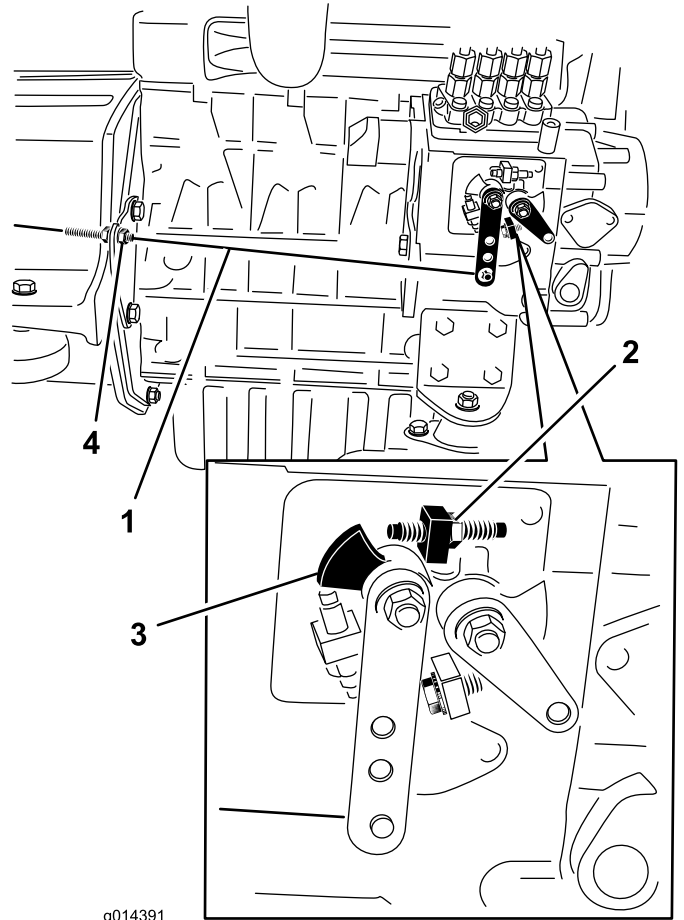

Figure 28
- Check the position of the speed control lever on the engine fuel injection pump. The speed control lever should be contacting the high speed screw when the throttle control lever is in the FAST (detent) position (Figure 28).
- If necessary, the position of the throttle control cable jam nuts can be adjusted until speed control lever contacts high speed screw when throttle control lever is at FAST (detent) position (Figure 28).